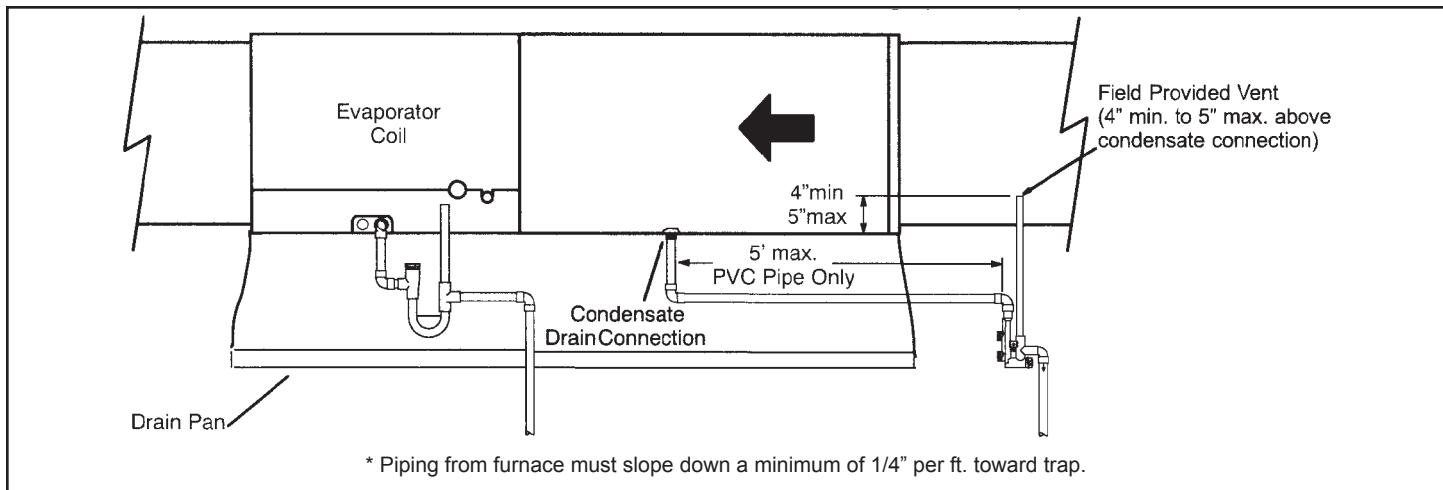

Figure 55. Condensate Trap Locations
5. Figure 55 and Figure 56 show the furnace and evaporator coil using a separate drain. If necessary the condensate line from the furnace and evaporator coil can drain together. See Figure 57 and Figure 58.
Horizontal furnace (Figure 55) - In horizontal furnace applications the field provided vent must be minimum 4" to a maximum 5" length above the condensate drain outlet connection. Any length above 5" may result in a flooded heat exchanger if the combined primary drain line were to become restricted.